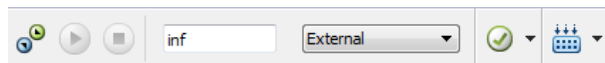

Figure 3.3: SIMULINK® model toolbar: connect to target and compilation
10. Run the **QUARC®** controller. To do this, go to the **SIMULINK®** model tool bar, shown in Figure 3.3, and click on the *Connect to target* icon and then on the *Run* icon. You can also go **QUARC | Start** to run the code.